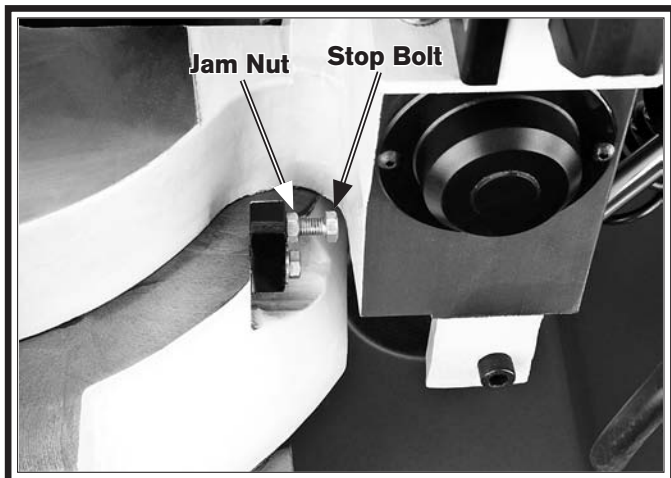

Figure 44. Stop adjustment.
- If the square does not fit snugly against both the stationary jaw and the blade, loosen the jam nut shown in **Figure 44**, then thread the stop bolt inward.
- Adjust the stop bolt as needed until it just touches the cast iron swivel base, as shown in **Figure 44**, then snug the jam nut against the stop block without turning the stop bolt.